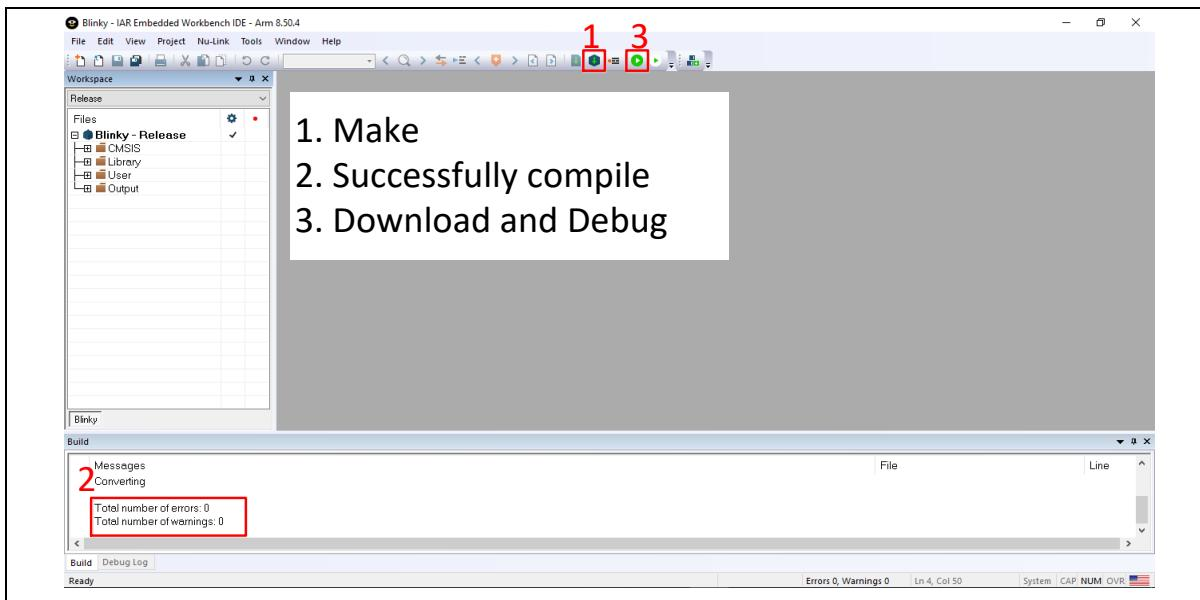

Figure 4-14 Compile and Download the Project
3. Make target file as presented in Figure 4-14. After successfully compiling the project, download code to the Flash memory and enter debug mode.